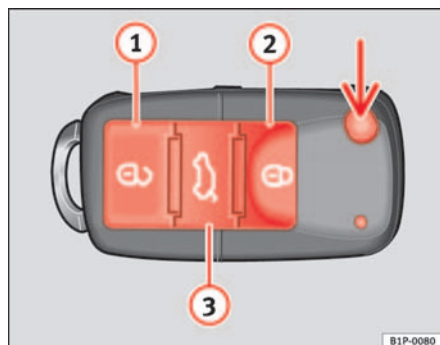

Fig. 63 Assignment of buttons on the remote control key
Using the button \Rightarrow fig. 63 (arrow) on the control, the key shaft is released.
Unlocking the vehicle \Rightarrow fig. 63 ① . The doors and the tailgate are unlocked.
Locking the vehicle \Rightarrow fig. 63 ② .
Unlocking the tailgate. Press the button \Rightarrow fig. 63 ③ until all indicators on the vehicle briefly flash. When the unlocking button \Rightarrow fig. 63 ③ is pressed, 2 minutes remain for opening the door. Once this time has passed, it will lock once more.
Also, the battery indicator on the key \Rightarrow fig. 63, will flash.
When the button \Rightarrow fig. 63 ① is pressed once the driver's door is unlocked, all others remain locked.
- Lock the vehicle using the driver side door lock with the remote control key ⇒ page 98, fig. 63.